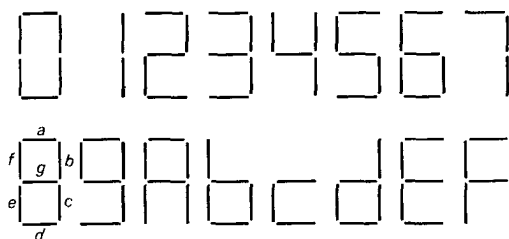

Figure 8.76. 7-segment display codes.
The inputs are the individual segment signals, which are always labeled *a-g*; see Figure 8.76, which also shows how the digits A-F are represented with 7-segment displays. Note that it is possible to represent 9 and C in two ways, both of which should be correctly recognized by our logic. For the PAL, we choose a 16L8,
Figure 8.77 is the input to CUPL. We assigned the (positive-true) segment drive signals *a-g* as inputs, and the (negative-true) hexadecimal bits DO-D3 as outputs. CUPL lets you define intermediate variables that can be used in later expressions; in this case it is convenient to define the obvious variables zero through *hexf*, the possible displayed digits in terms of the segment inputs. These are simply large product (AND) terms of the input segment variables, which you can read from the digit shapes in Figure 8.76. Finally, each binary output bit is written as the sum (OR) of the digit variables in which that bit is set. We've used negative-true levels because the 16L8 is an AND-NOR array, thus minimizing logic. This completes the logic specification to CUPL.